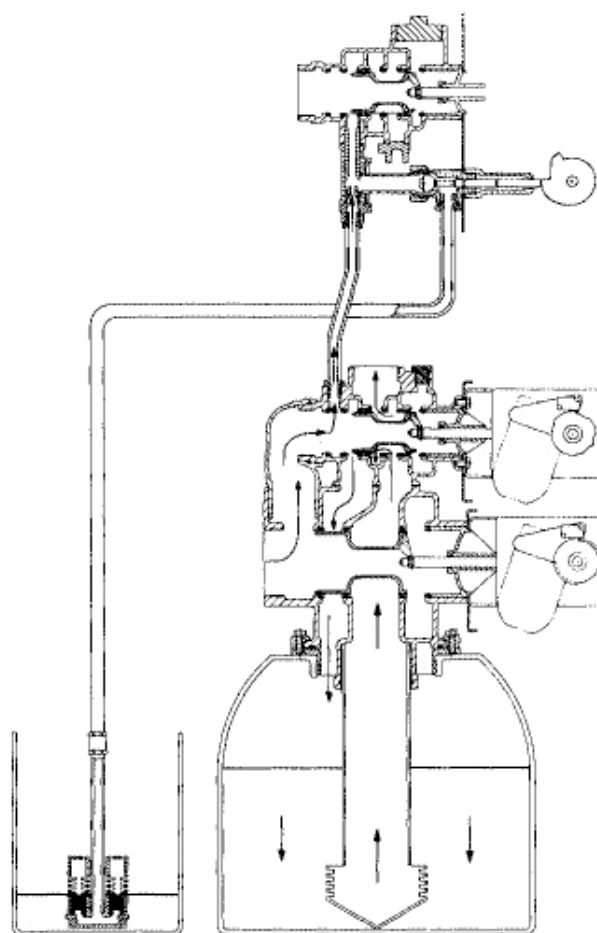

Figure 55.
3. Water enters center tube through bottom distributor, flows up through center tube, around the piston, and out through the drain line. See Figure 55.